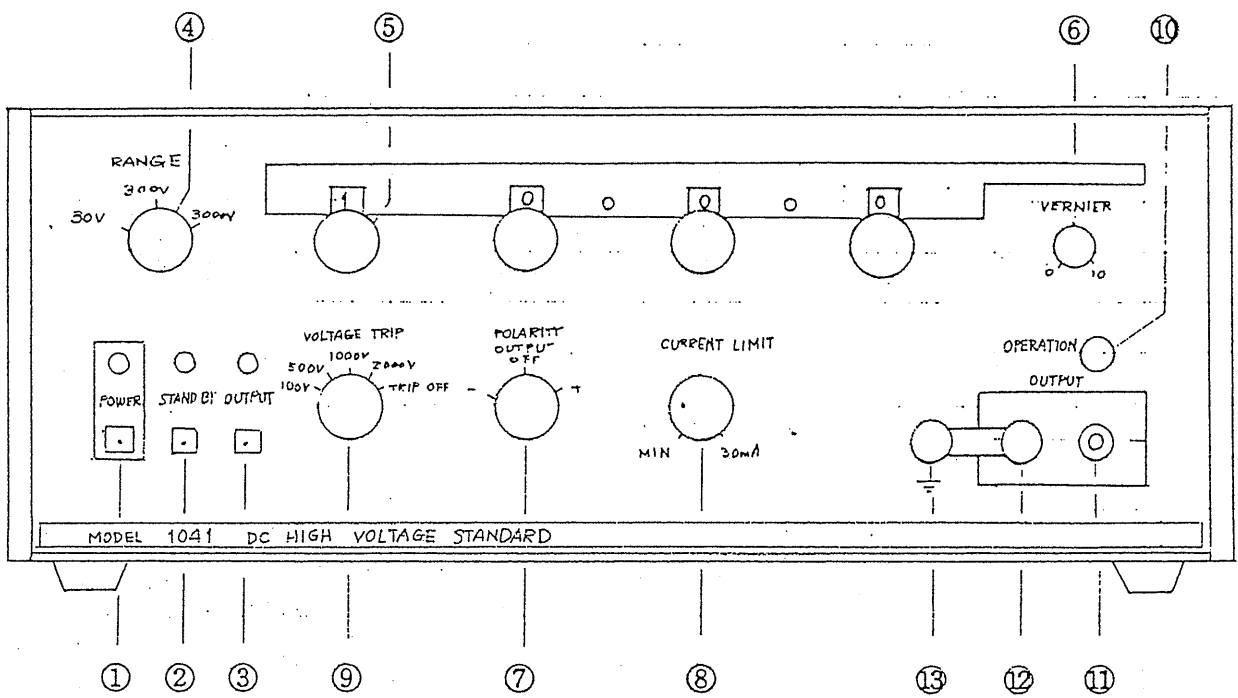

Figure 3-1. Front panel
3.1 Front and Rear Panel Description (Refer to Figures 3-1 and 3-2.)